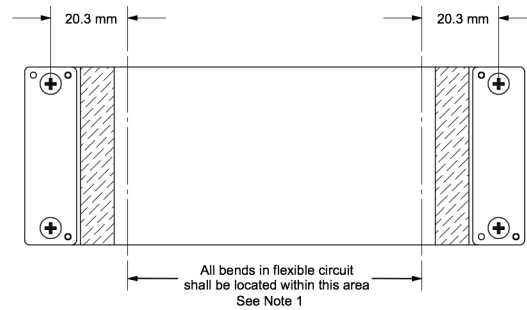

Figure 1-4. Flex Cable Diagram
- Bending the cable outside the area identified in Figure 1-4 (within 20.3 mm of connector plate centers).